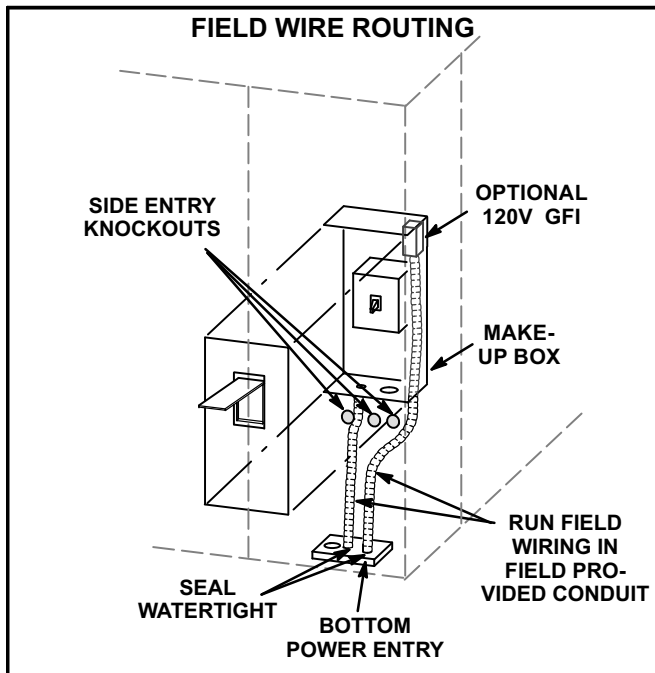

FIGURE 8
Route field wiring in conduit between bottom power entry disconnect. See figure 8. This does not supersede local codes or authorities having jurisdiction.
- 3- Connect separate 120v wiring to optional GFCI outlet pigtails. Route field wiring in conduit between bottom power entry and GFCI. See figure 8.